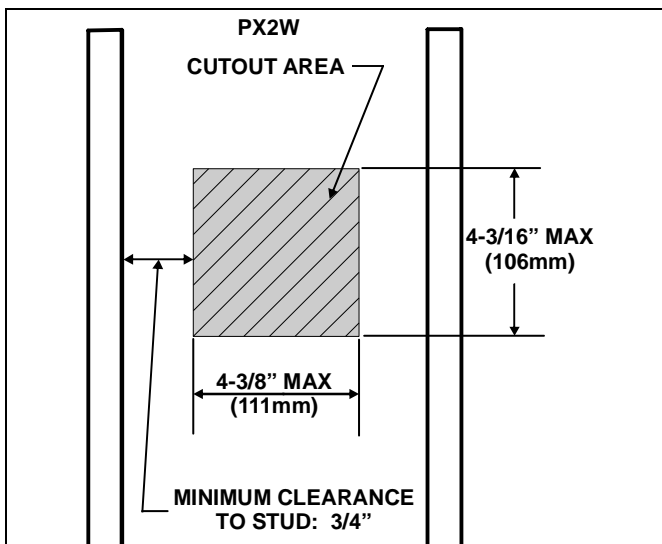

Figure 1
4. Measure the marked area and compare to the dimensions shown in Figure 1. If measurements match continue to step 5. If not, adjust markings to match dimensions in Figure 1.